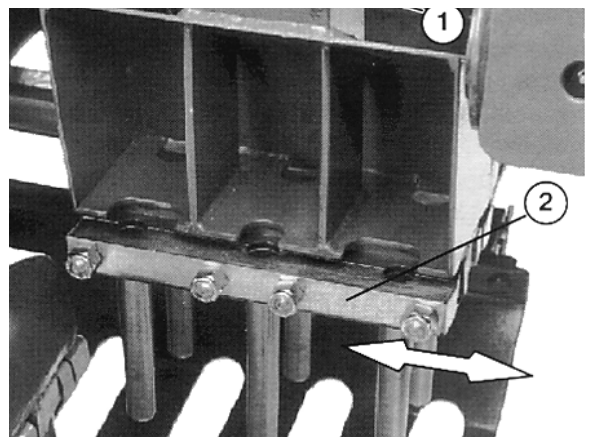

Figure 16
Note: Should major failure of pick-off gear case components occur, the gear oil will be contaminated and should be drained. Flush the gear case and add fresh oil. The gear case oil drain plug is located below cover on front of case (Fig. 16).
1. Grasp each stomper assembly at the bottom and try to move the assembly laterally in each direction (Fig. 16). Do not move fore and aft. There should be little or no movement of the assembly. If there is movement, proceed to step 2. If there is little or no movement, proceed to check the next assembly.